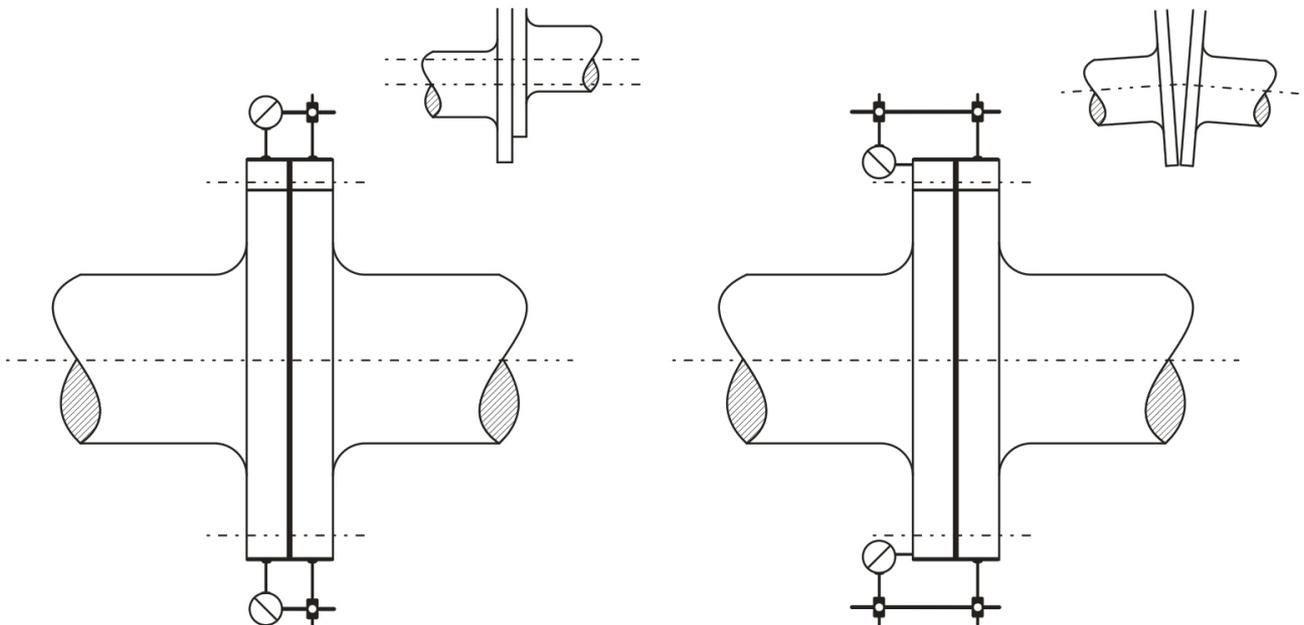

FIGURE 9. ALIGNMENT USING DIAL GAUGES - 1: RADIAL ALIGNMENT, 2: ANGULAR ALIGNMENT
4. If dial gauges are used, their scale must be adjusted so that about half the scale is available in both directions. Check the strength of the dial gauge holder to prevent possible bending, see Figure 9 on page 43.